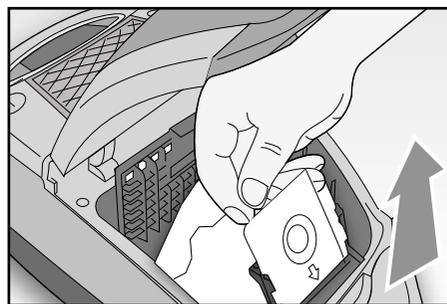

Fig. 9
- Remove the bag (Fig. 9), taking care not to tear it; slide the stiff plastic section along the special guides. Wash the bag in water and a mild detergent, if necessary.
- Open the division (FIG. 8) and remove the small bag (FIG. 9).